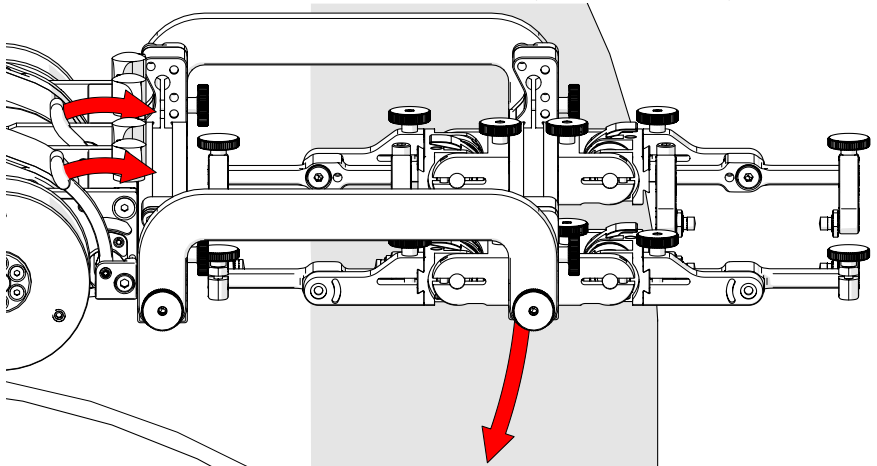
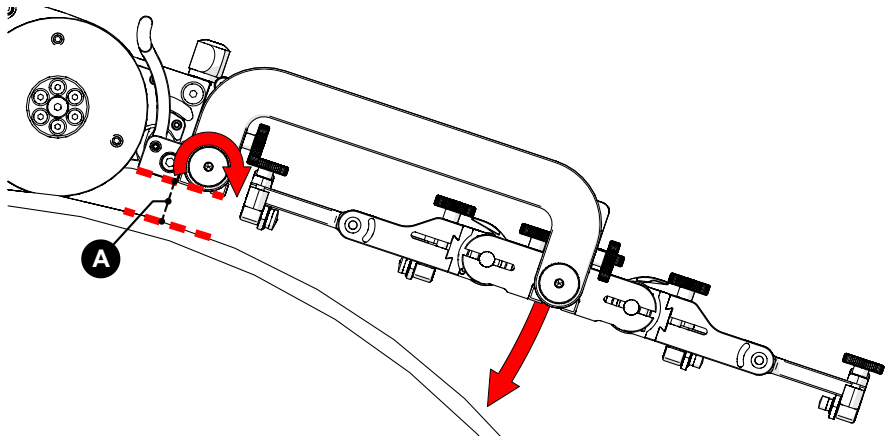
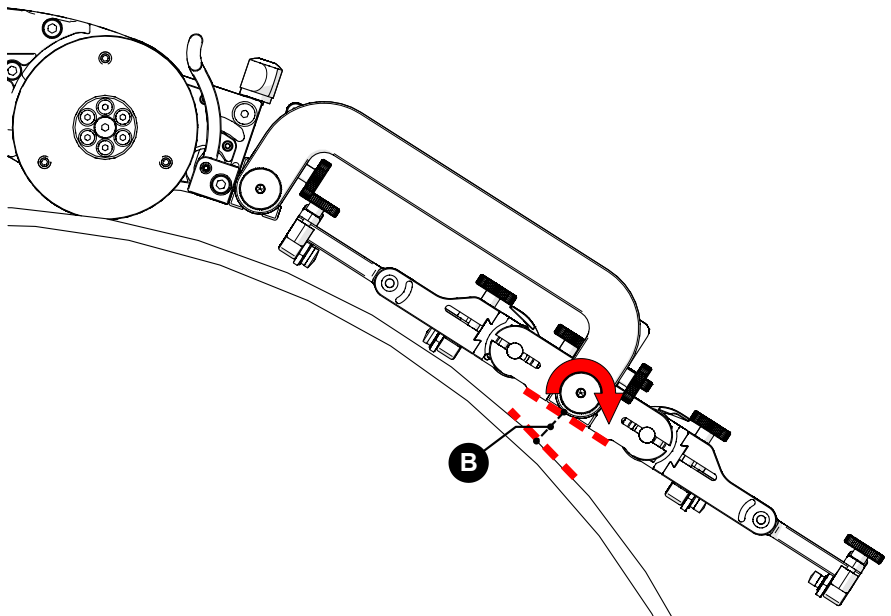
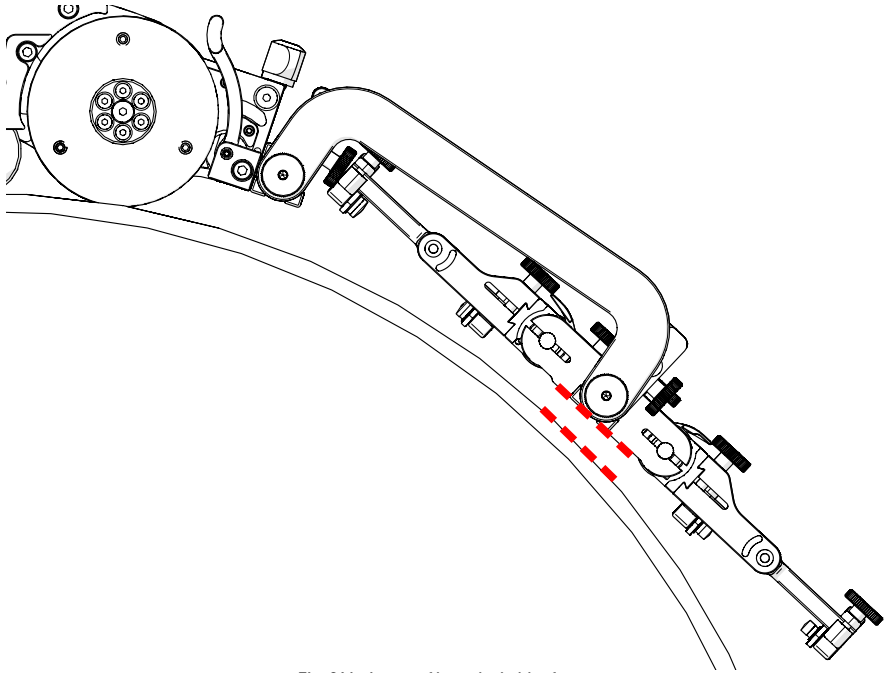

Fig. 261 - Align swivel mount with scan surface
Fig. 262 - Set rear rotational adjustment knob
Fig. 263 - Align probe holder tangent with scan surface
Fig. 264 - Low profile probe holder frame
4. Release the two swivel mount levers (Fig. 261) to position the swivel mount parallel to the scan surface (Fig. 262). When alignment with scan surface is achieved, lock the crawler swivel mount levers.
5. Loosen the rear rotational adjustment knob to lower the front frame bar of the low profile frame towards the inspection surface (Fig. 262). Ensure gap **B** (Fig. 263) is no smaller than gap **A** (Fig. 262).
6. Loosen the front rotational adjustment knob (Fig. 263) to align the frame bar parallel with the scan surface (Fig. 264).